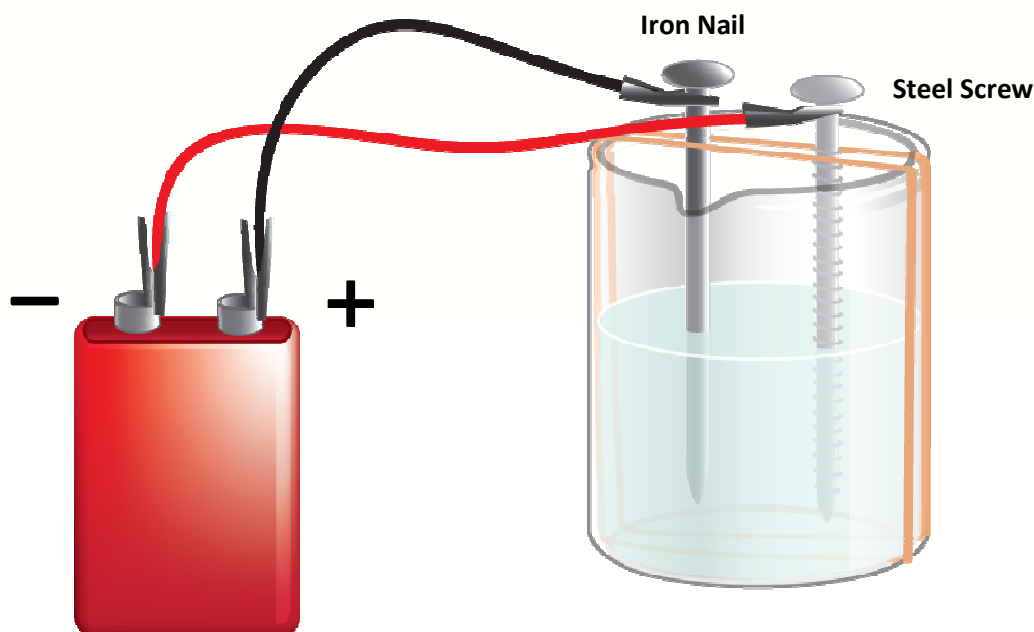

Figure 4: Apparatus for Procedure Part 1
3. Stretch two rubber bands around the 250 mL beaker. Be careful not to spill any of the solution. The rubber bands should loop from the top to the bottom of the beaker. Position the 2 rubber bands next to each other (Figure 4). **HINT:** Do not position the bands around the circumference of the beaker.
4. Attach the first wire lead to just underneath the flat head of an iron nail (using the alligator clip). Place the iron nail between the 2 rubber bands on one side of the 250 mL beaker so that it is suspended in the water. The end of the nail should be in the solution while the head with clip is resting on the rubber bands. (See Figure 4).